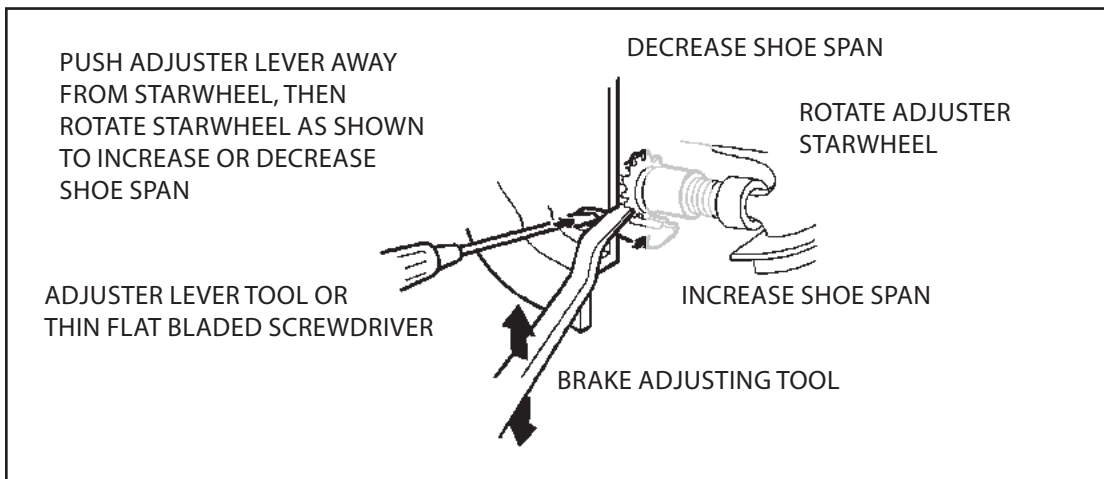

Figure 14. Brake Adjustment With Drum In Place (cut away view)
Note: If the drum proves difficult to remove, insert a thin flat bladed screwdriver through the brake adjusting hole in the backing plate and disengage the adjuster lever from the adjuster nut teeth. With the adjuster lever disengaged as shown in Figures 14 and 15, insert a brake adjusting tool (or flat bladed screw driver) through the adjusting hole to engage the adjusting nut teeth. Move the teeth upward enough times to retract the brake shoes to clear the drum. If the drum is rusted to the axle input flange yoke pilot, tap the center of the brake drum with a nonmetallic mallet to loosen.
2. Insert the adjuster lever tool or a thin flat bladed screw driver through the adjusting slot in the backplate and push on the adjuster lever to disengage it from the adjuster starwheel. Insert a brake adjusting tool (or flathead screwdriver) through the adjusting slot and move the starwheel teeth downward to expand the brake shoes outward. See Figures 14 and 15. Continue expanding the shoes until the drum can not be rotated by hand.
3. Now adjust the starwheel teeth upward to retract the shoes until the drum just begins to rotate freely by hand (without drag from the shoes). See Figures 14 and 15.
Note: *If the drum proves difficult to remove, insert a narrow screwdriver through the brake adjusting hole in the backing plate and disengage the adjuster lever from the adjuster nut starwheel teeth. With adjuster lever disengaged as shown in Figures 14 and 15, insert a brake adjusting tool (or screw driver) through the adjusting hole to engage the adjusting nut teeth. Move the teeth upward enough times to retract the brake shoes to clear the drum. If the drum is rusted to the axle input flange yoke pilot, tap the center of the brake drum with a non-metallic mallet to loosen.*